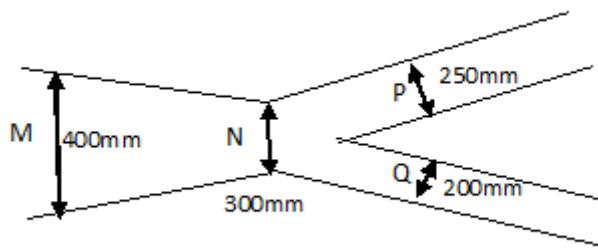

Figure B1(b) / Rajah B1(b)
- (b) The branch pipes are either the same size as main pipe or smaller size. Referring to Figure B1(b), MN pipe is branched into two pipes namely P and Q as shown below. The pipe has a diameter of 400 mm at M, 300 mm at N, 250 at P and 200 mm at Q. Velocity at M is 2 m/s. Determine the velocities at N and P, if the velocity at Q is 4 m/s.